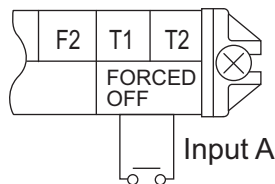

Fig. 30
(1) Wire specifications and how to perform wiring (Refer to Fig. 30)